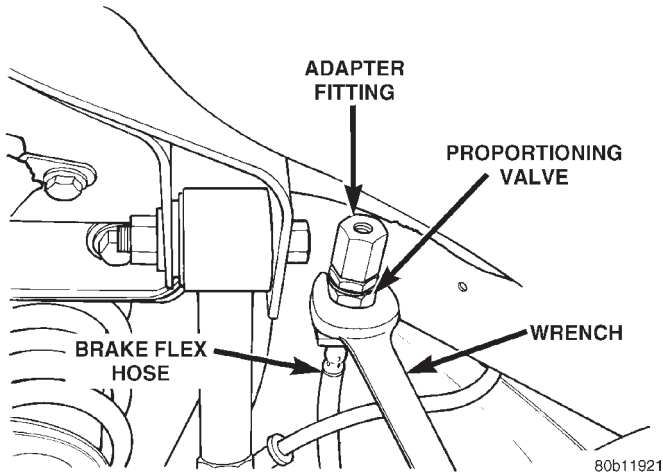

Fig. 38 Proportioning Valve Removal
CAUTION: When removing proportioning valve from flex hose place wrench on proportioning valve (Fig. 38) not adapter fitting. The adapter fitting (Fig. 38) is not to be removed from the proportioning valve.
(2) Remove proportioning valve from brake flex hose (Fig. 38).
- (1) Install proportioning valve on brake flex hose (Fig. 38). Tighten proportioning valve to a torque of 17 N·m (145 in. lbs.)